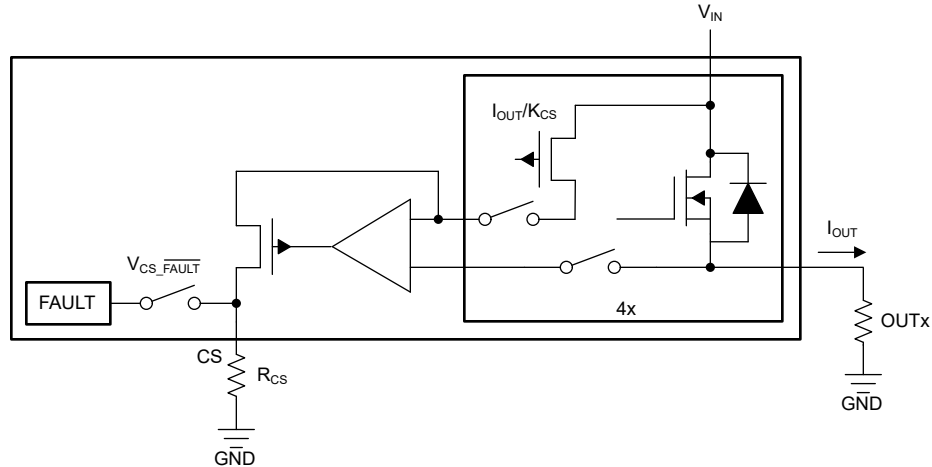

図 8-2. Current-Sense Block Diagram
K_{CS} is the ratio of the output current and the sense current (CS). It is a constant value across the temperature and supply voltage (IN). Each device is calibrated accurately during production, so post-calibration is not required. See Figure 8-2 for more details.